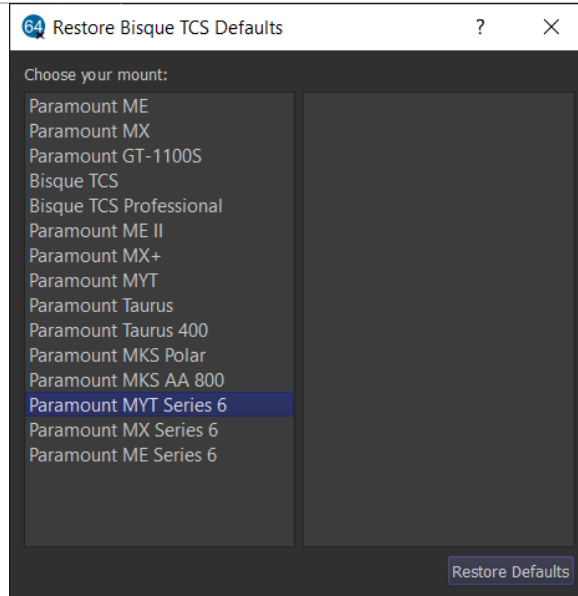

Figure 60: Choosing your Paramount model.
5. **CRITICAL:** When prompted, **be sure to choose the correct model of your mount** (Figure 60). If you own an earlier model Paramount mount, choose it from the list, not the **Series 6** option. Remember, upgrading a “classic” Paramount MYT, MX, MX+ or ME II mount with the MKS 6000 *does not make it a Paramount Series 6 mount!*